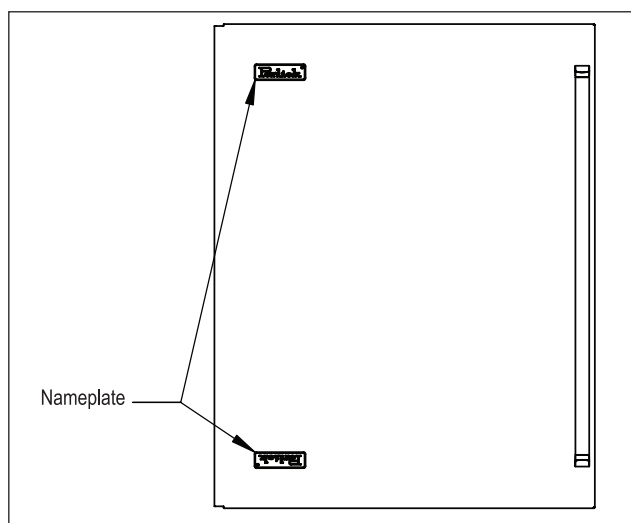

Figure 12. Nameplate
8). Remove the Perlick nameplate from the door front using a plastic putty knife (Fig. 12). Install the new Perlick nameplate included in the kit.